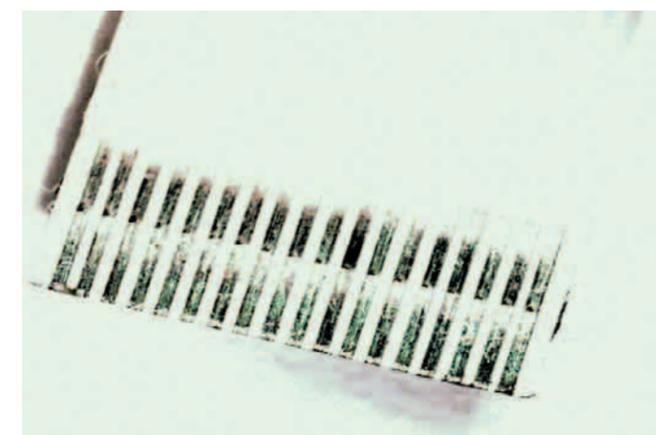

Figure 1: Do not use tin plating on flex circuitry
- ◆ Compressive contact points (e.g., see Figure 1)